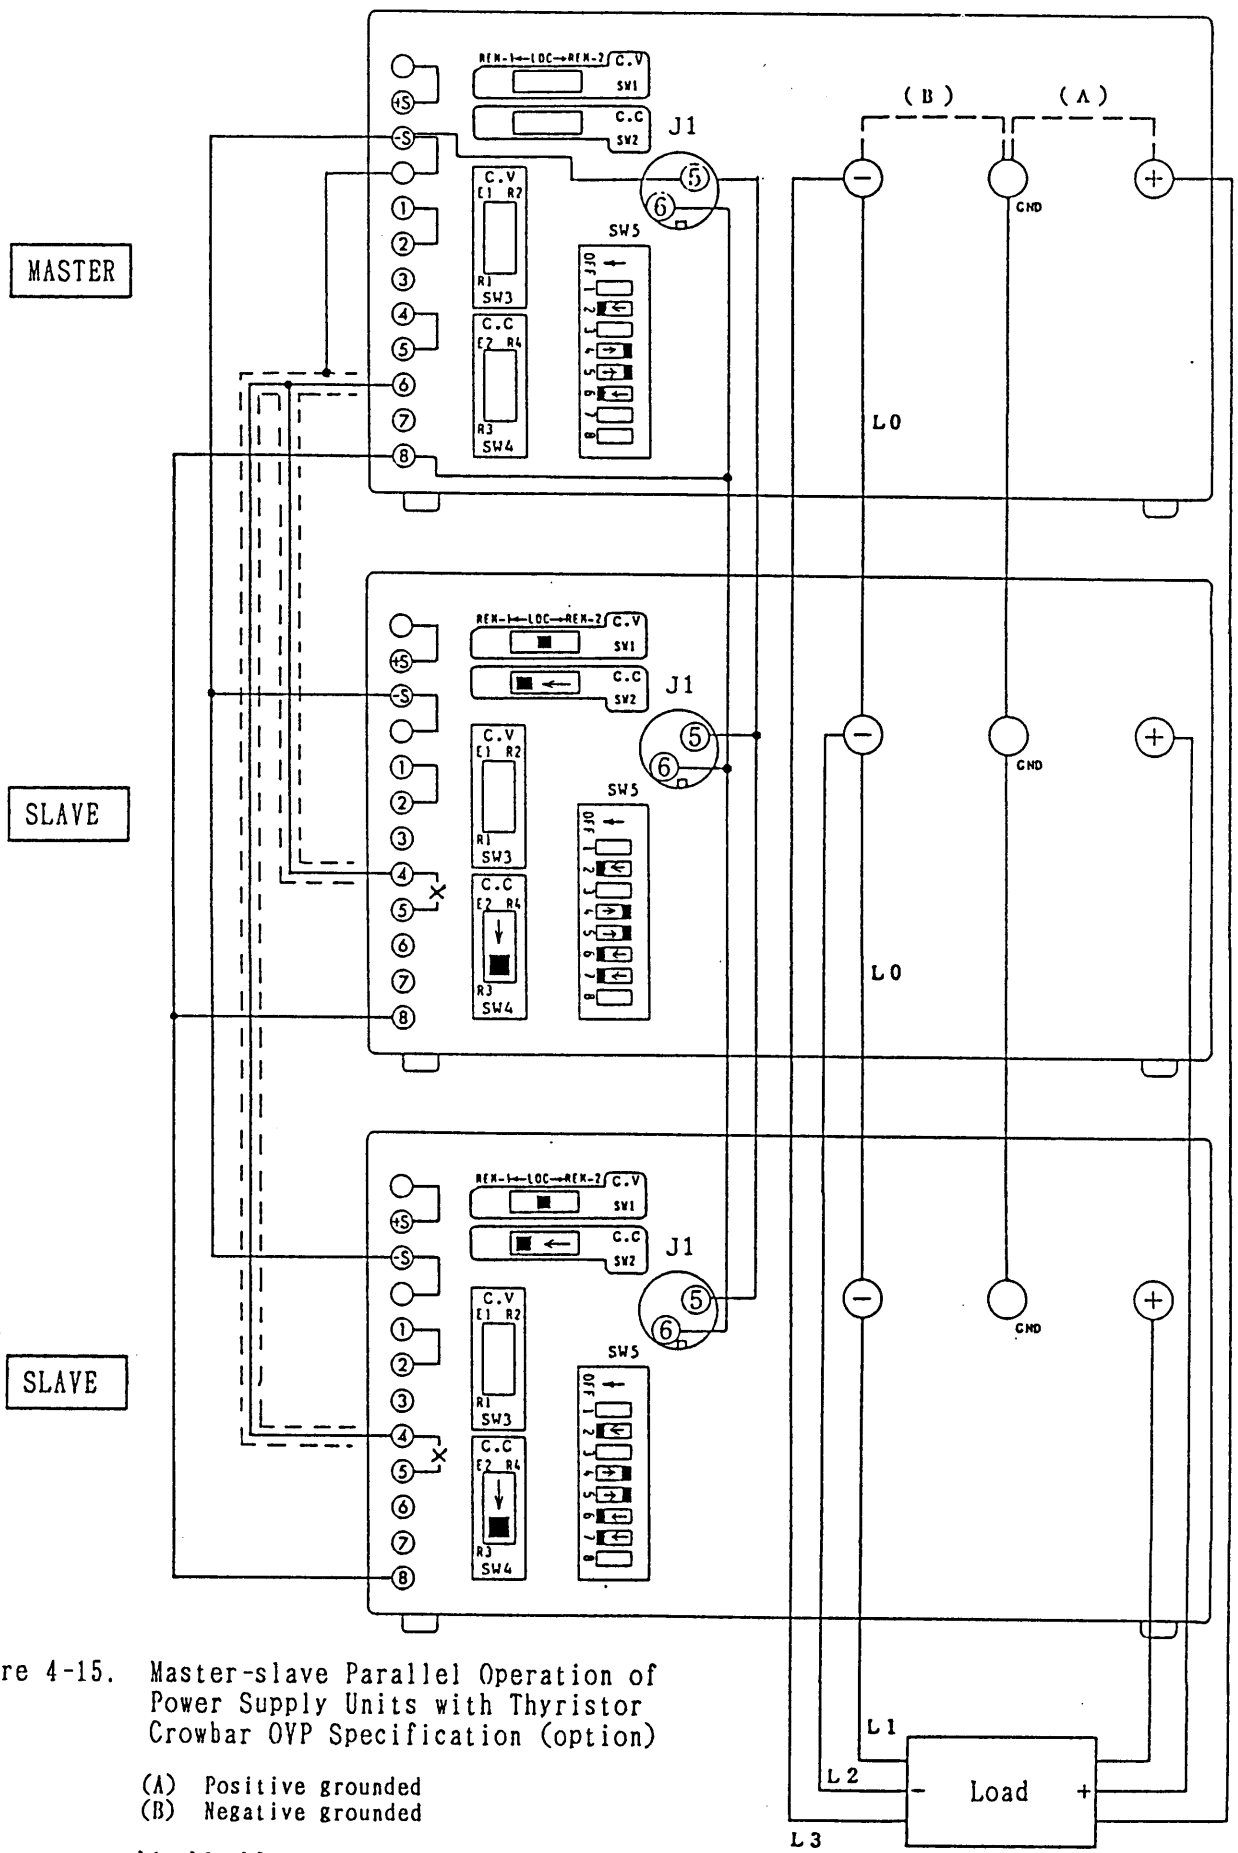

Figure 4-15. Master-slave Parallel Operation of Power Supply Units with Thyristor Crowbar OVP Specification (option)
- (8) Connect in parallel the DIN connector (J1) pins 5 of all units as shown in Figure 4-15.
- (9) Connect in parallel the DIN connector (J1) pins 6 of all units as shown in Figure 4-15.
- (10) Connect in parallel the terminals ⑦ of the rear terminal blocks of all units as shown in Figure 4-15.
- (11) Connect in parallel the ⑤ terminals of the rear terminal blocks of all units as shown in Figure 4-15.
- (12) Connect the DIN connector (J1) pin 5 of the master unit to the ⑤ terminal of the rear terminal block.
- (13) Connect the DIN connector (J1) pin 6 of the master unit to terminal ⑦ of the rear terminal block.
- (14) Turn fully counterclockwise the voltage setting knob of each slave unit.
- (15) For the remote sensing mode or the remote control mode of operation, control the master unit alone.
- (16) For the remote sensing mode of operation, connect the jumper wires between terminals ⑤ and ⊕ and between ⑤ and ⊖ terminals of each slave units.
- (17) Regarding the switches for which no settings are specified in Figure 4-15, set them to the standard states as shown in Figure 2-23 (See Section 2.4.) or to appropriate states for respective modes (See Sections 4.1 thorough 4.11.).
- (11) Connect in parallel the DIN connector (J1) pins 5 of all units as shown in Figure 4-15.
- (12) Connect in parallel the DIN connector (J1) pins 6 of all units as shown in Figure 4-15.
- (13) Connect in parallel the terminals ⑧ of the rear terminal blocks of all units as shown in Figure 4-15.
- (14) Connect in parallel the ⑨ terminals of the rear terminal blocks of all units as shown in Figure 4-15.
- (15) Connect the DIN connector (J1) pin 5 of the master unit to the ⑩ terminal of the rear terminal block.
- (16) Connect the DIN connector (J1) pin 6 of the master unit to terminal ⑧ of the rear terminal block.
- (17) Turn fully clockwise the voltage getting knob of each slave unit.
- (18) For the remote control mode of operation, control the master unit alone.
- (19) For the remote sensing mode of operation, connect in parallel the ⑪ and ⑫ terminals of units and disconnect their jumper wires from between terminals ⑪ and ⑬ and between ⑫ and ⑭ terminals.
- (20) Regarding the switches for which no settings are specified in Figure 4-15, set them to the standard states as shown in Figure 2-23 (See Section 2.4.) or to appropriate states for respective modes (See Sections 4.1 through 4.11.).